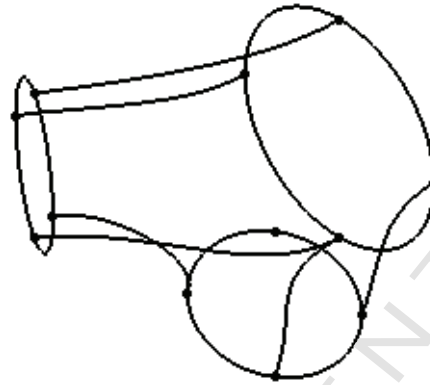

Figure 1–32
7. Hide the appropriate curves so that only the seven shown in Figure 1–33 are visible.